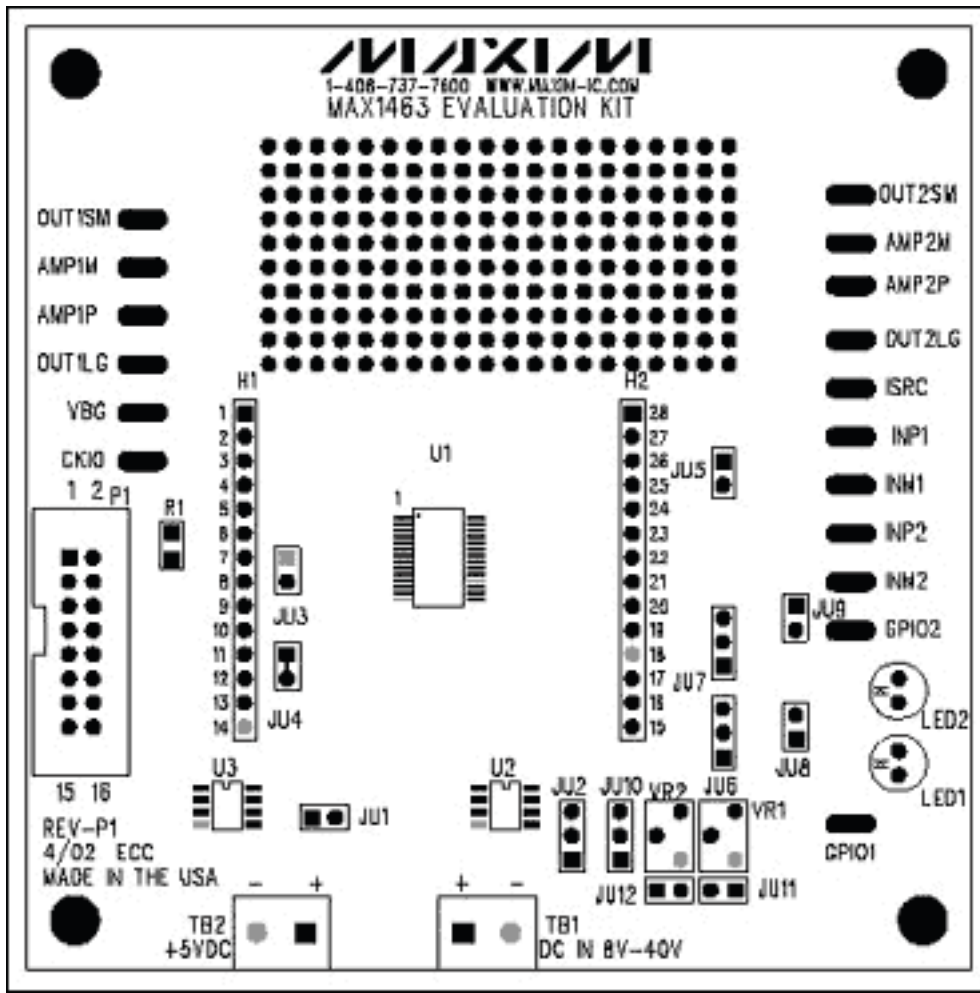

Figure 1. The MAX1463 evaluation board
- See the MAX1463 evaluation board diagram in Figure 1.